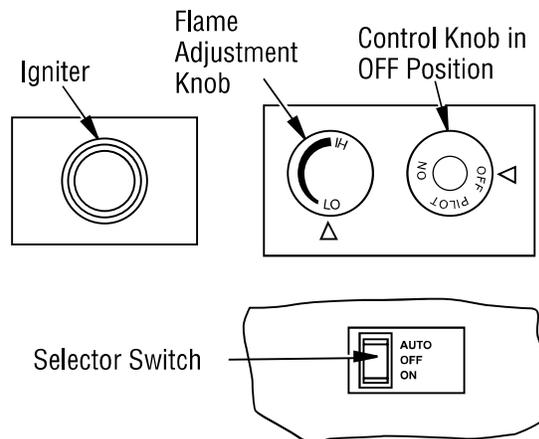

Figure 67 - Control Knob, Igniter Button and AUTO/OFF/ON Switch
4. Press in and turn control knob clockwise  to the OFF position (see **Figure 67**).
- Wait five (5) minutes to clear out any gas. Then smell for gas, including near the floor. If you smell gas, STOP! Follow "B" in the safety information, column 1. If you don't smell gas, go to the next step.
- Press in and turn control knob counterclockwise  to the PILOT position. Press in control knob for five (5) seconds (see **Figure 67, Page 22**).